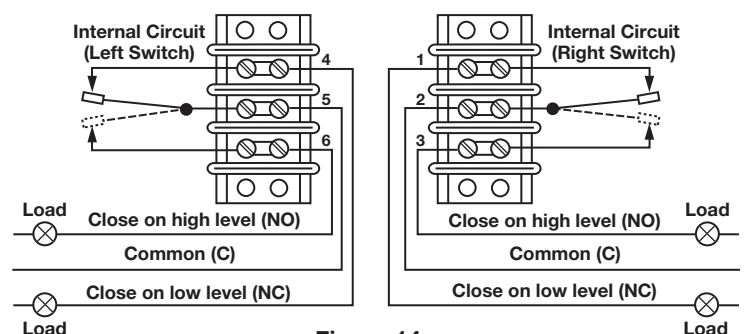

Figure 14
1. Rising level closes contacts 5 & 6 and 2 & 3, see Figure 14.